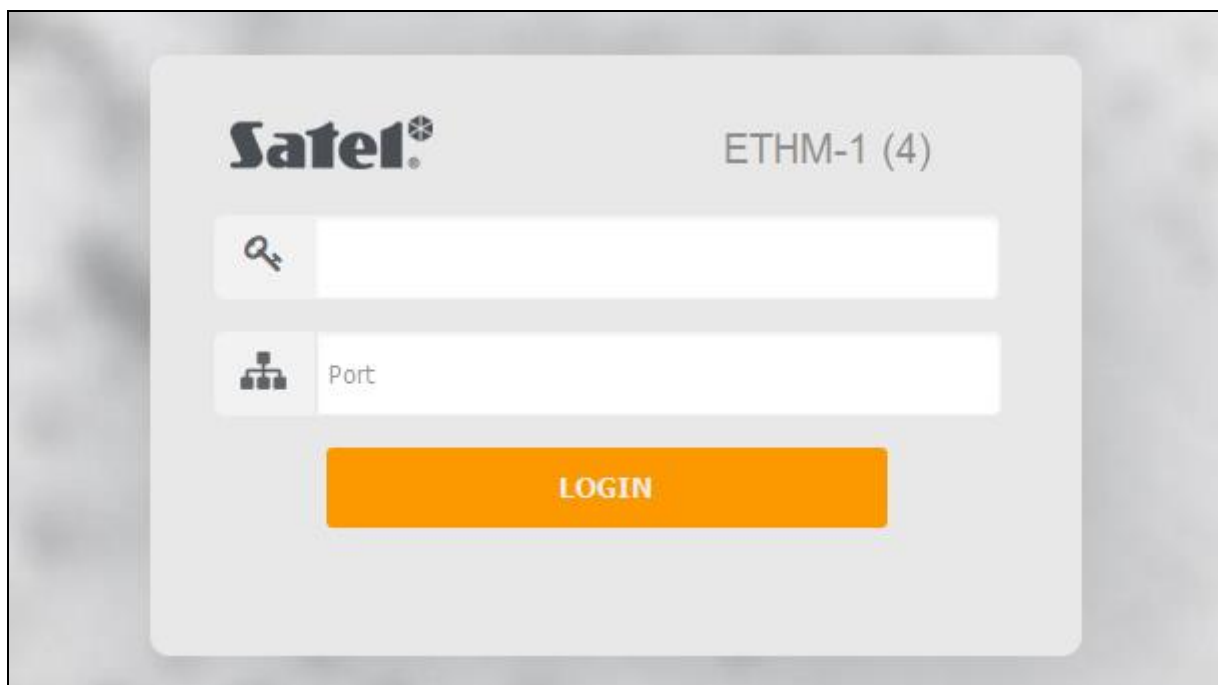

Fig. 20. Web browser: login page.
3. When the login page displays (Fig. 20), enter in the corresponding fields: